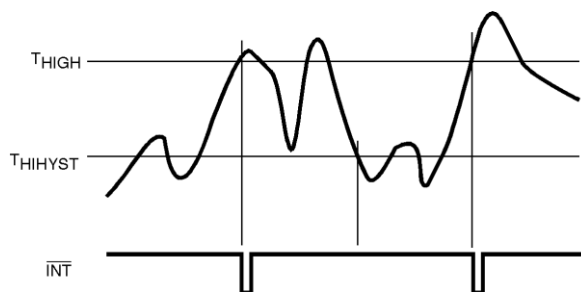

Figure 20. One-Time Interrupt Response Diagram
**Normal One-Time Interrupt Mode** is shown in Figure 20 and operates in the following way:  $\overline{T\_CRIT\_A}$  is disabled. Exceeding  $T_{HIGH}$  causes an interrupt that will remain active indefinitely until reset by reading Interrupt Status Register 1. Another interrupt will not occur until the temperature drops to less than or equal to  $T_{HIHYST}$  and then exceeds  $T_{HIGH}$  during a subsequent conversion. After power up this mode is selected as default.